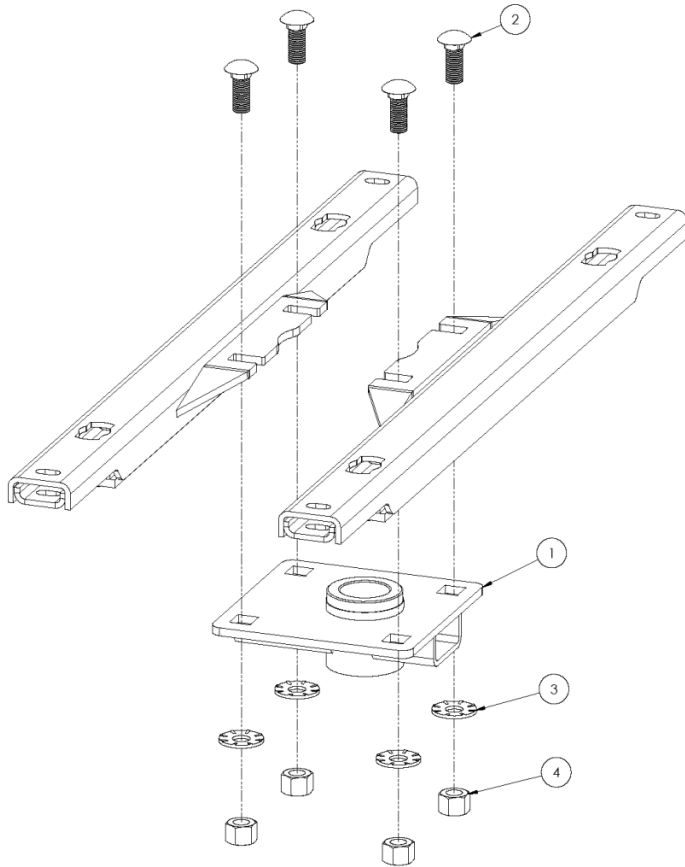

Fig. 8
3. Place the REESE™ Elite Series Gooseneck Hitch under the truck (As shown in figure 8) using the 3/4" carriage bolts (2) slide them into place through the openings in the rail kit.